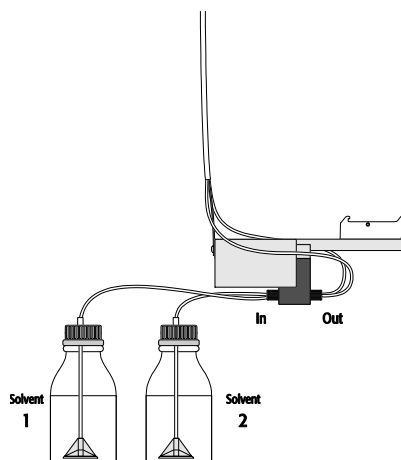

Figure 9. Installing the Solvent Tube Assembly to the Pump Holder.
3. The Solvent line assembly is not preinstalled at the factory. The correct mounting is shown in Figure 9 below